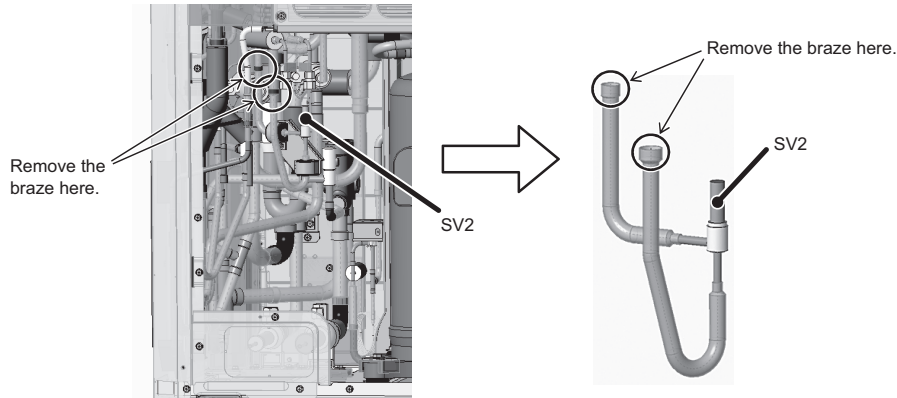

Figure 10
(10) Remove the braze at the two areas circled in Figure 10 to remove SV2 assembly. (See Figure 10.)